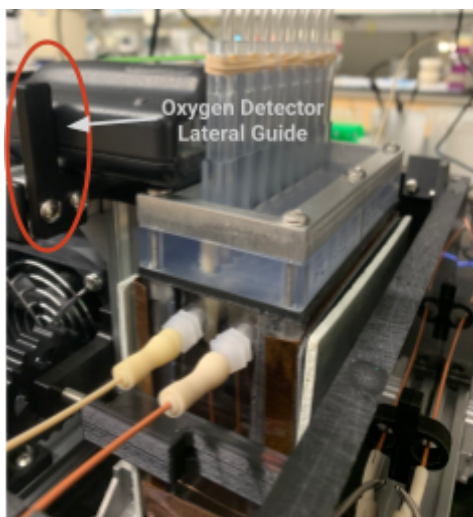

Fig. C6. Positioning of the Electric Stir Box, the MRM Heater, the MRM, the PCM and O₂ Detector on the BaroFuse Stand.
3. Secure the TCAs with the Rubber Band provided by stretching it around the fins of the PCM at the level of the rubber gaskets (Fig. C6).